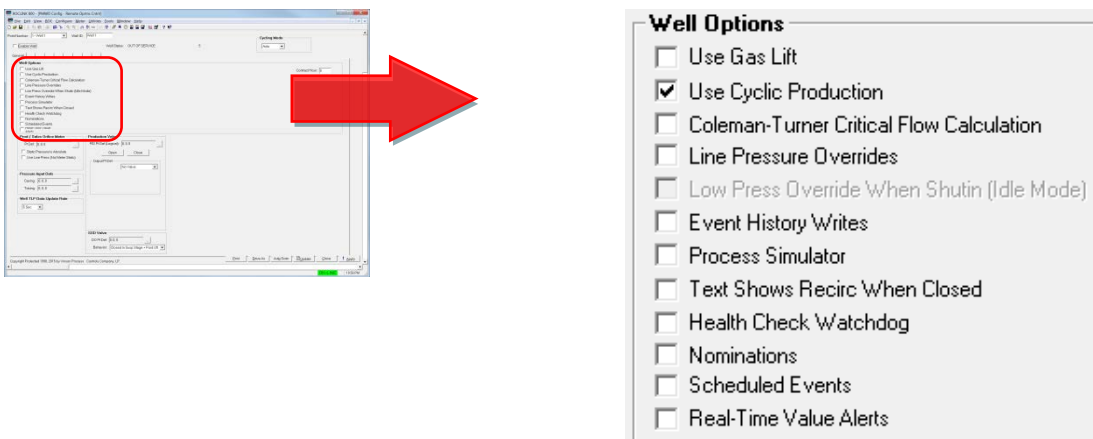

Figure 91. Plunger Lift Configuration – Enable Cyclic Production
4. If you use a single solenoid output (discrete) for the production valve, the screen appears as shown in Figure 91. Press the **Reset Well** button to open the production valve, and begin cyclic operation. The **Armed Shutin** state goes active.